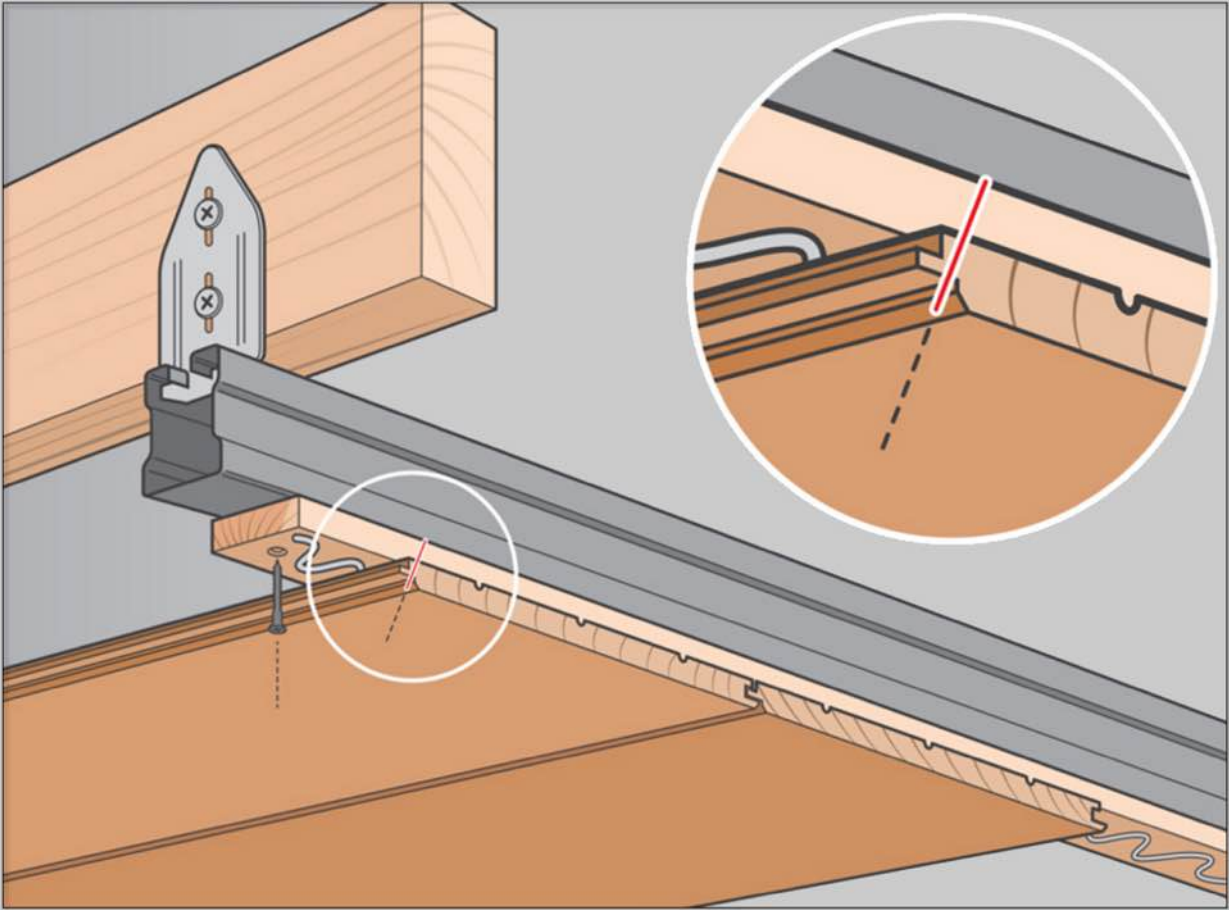

Fig 3. Panelling requiring secret nailing onto metal track system
- **For Wave Panel, Mountain Panel, Contemp Clad or Groovy Clad that cannot use face fixing screws**, it is necessary to securely scew a timber batten to the bottom of a metal track, then proceed as per timber framing projects (See Figure 3).